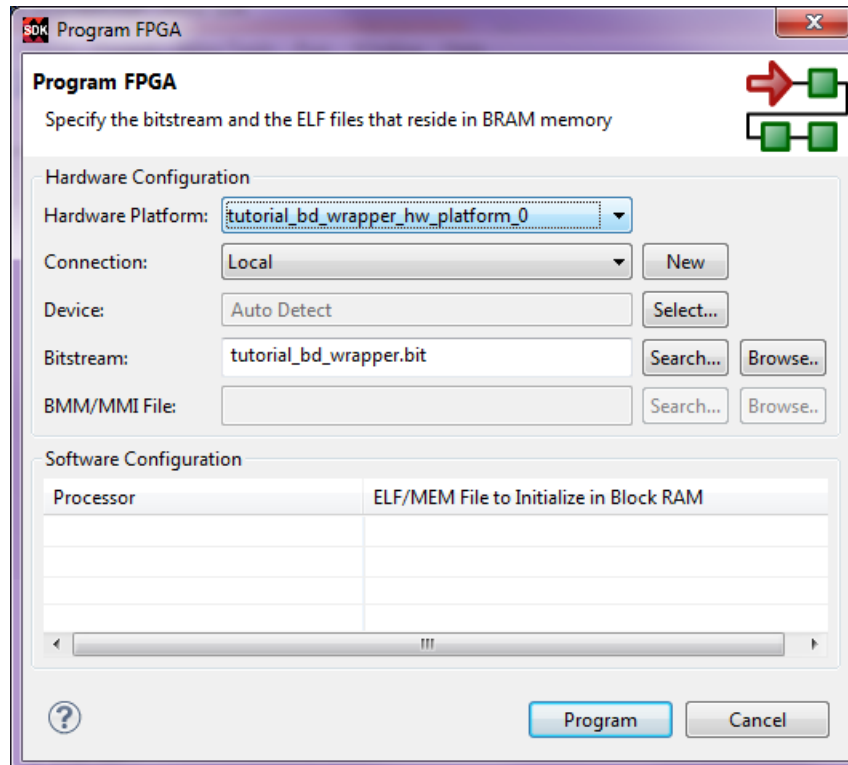

Figure 3-13: Program FPGA Dialog Box with Bitstream File
8. Select **Xilinx Tools > Program FPGA**. The Program FPGA dialog box, shown in Figure 3-13, opens. It displays the bitstream exported from Vivado.